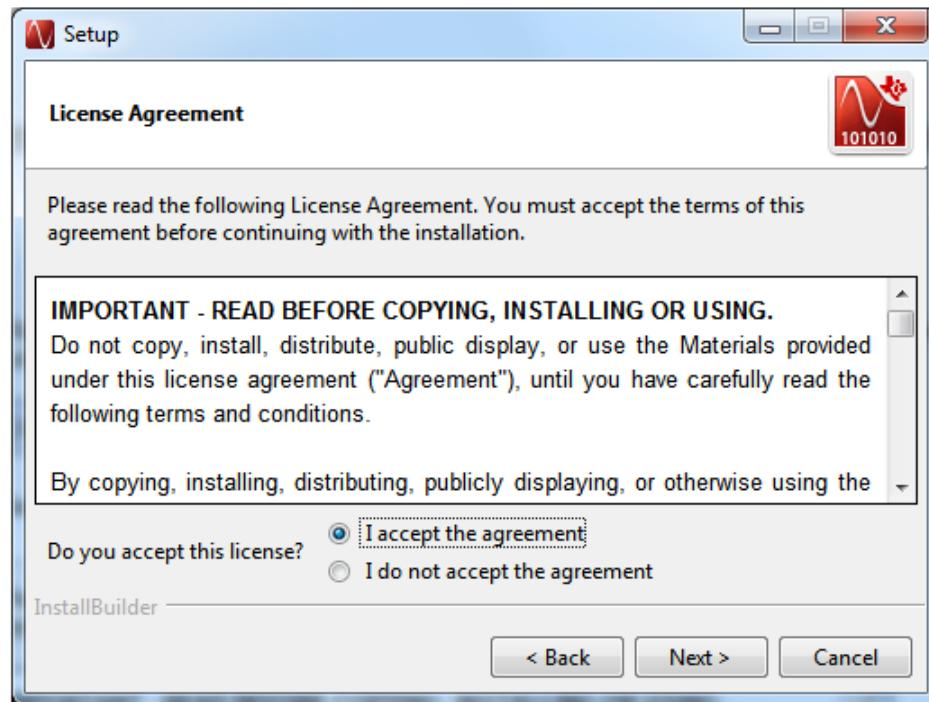

Figure 26. HSDCPro Install (TI License Agreement)
3. Read the License Agreement from Texas Instruments and select *I accept the License Agreement*, then press the *Next* button as shown in Figure 26.